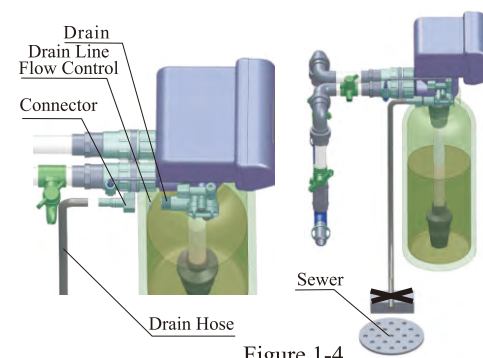

Figure 1-4
⑤Install drain pipeline
- As the Figure 1-4 shows, slide the drain hose connector into drain outlet.
- Locate the drain hose well as the Figure1-4 shows.
- Be sure not connect drain with sewer directly, and leave a certain space between them, avoid wastewater being absorbing to the water treatment equipment, such as showed in the Figure1-4.
⑥Connect brine tube